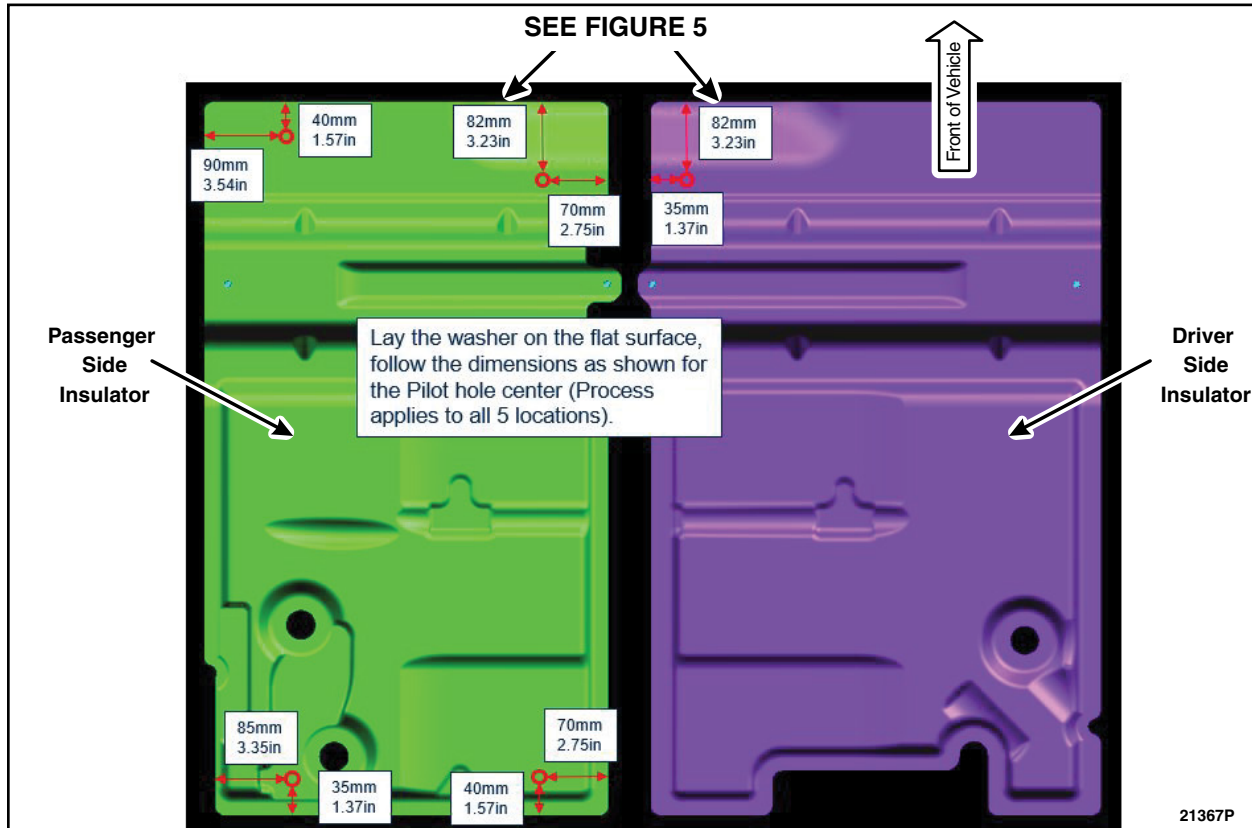

FIGURE 4
4. Measure and mark the four locations on the passenger side insulator and mark the one location on the driver side insulator. See Figures 4 and 5.